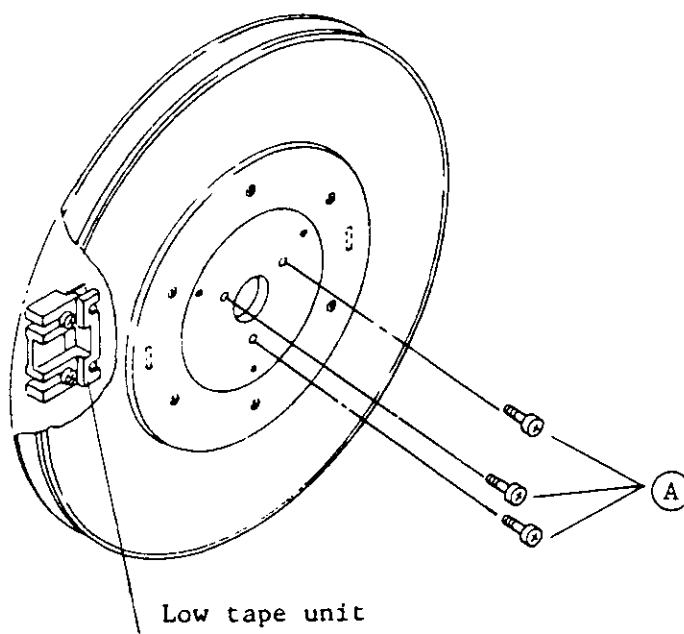

Figure L.27 Machine reel
- (1) Remove three screws (A) shown in Figure L.27, and remove the machine reel.
- (2) Disconnect connector CNJ56.
- (3) Remove two low tape sensor mounting screws and remove the low tape sensor.